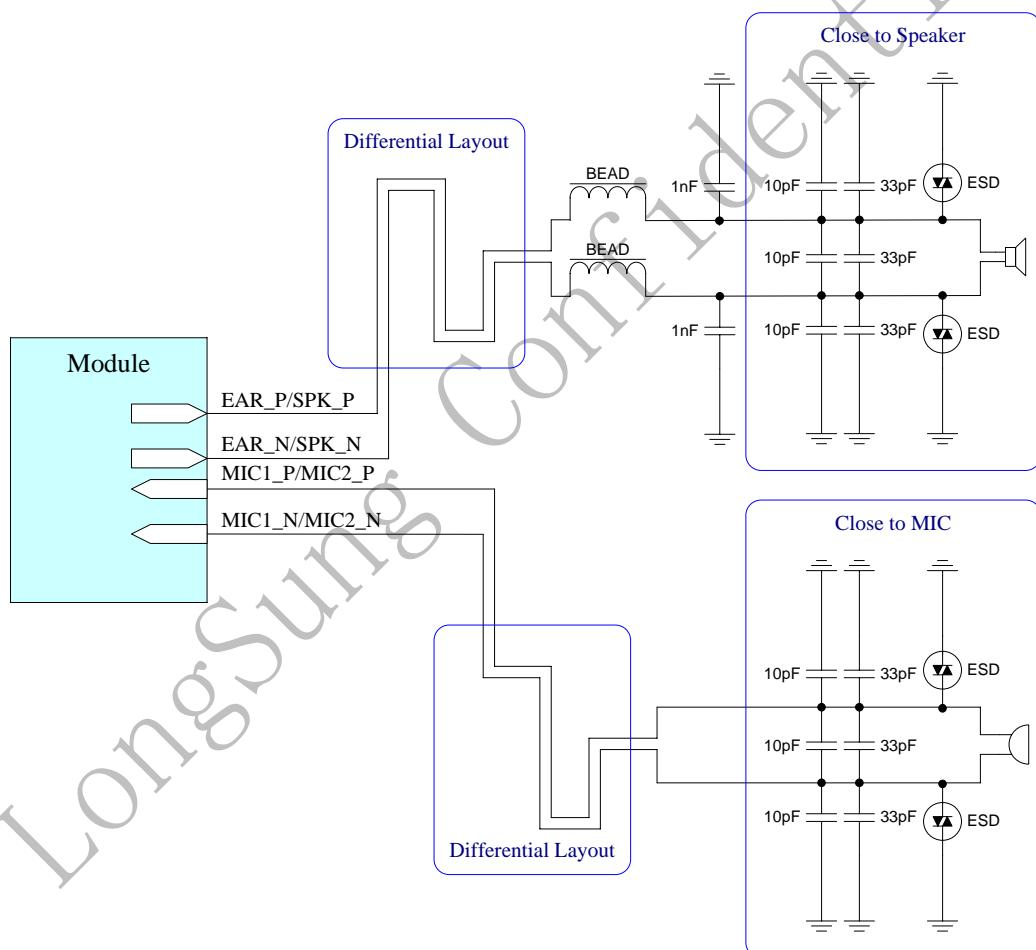

Figure14: U5501 analog audio reference circuit
- 5) If use an audio amplifier for speaker, optional EMI filtering is shown at Figure14, these components (two ferrite beads and two capacitors) can be added to reduce electromagnetic interference. If used, they should be located near the EAR_P and EAR_N.